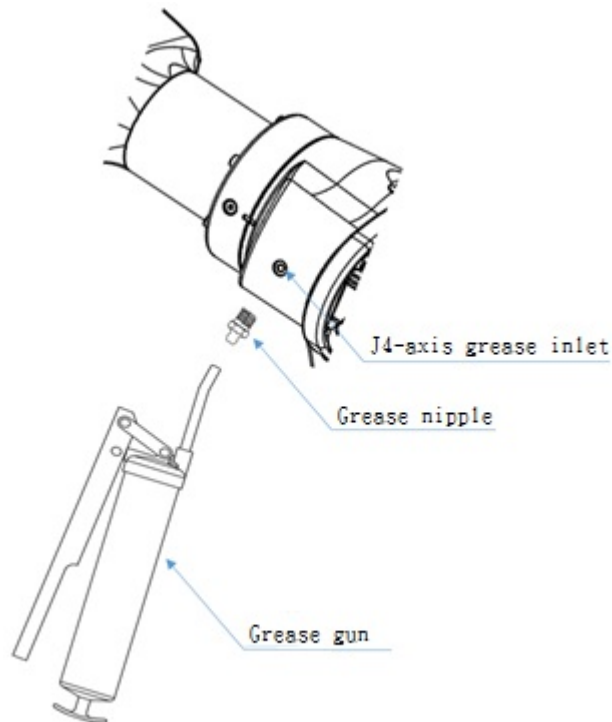

Figure 5-9 Grease replenishment
- Step1. The grease inlets and the outlet of the robot are shown in Figure 5-9.